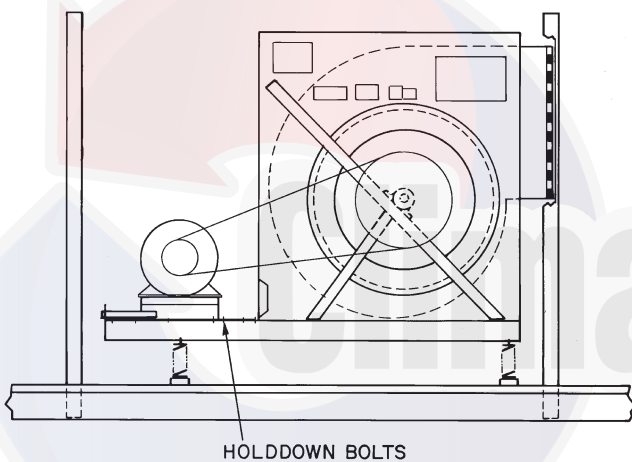

Fig. 50 — Motor Plate Adjustment
1. Loosen holddown bolts. (See Fig. 50.)